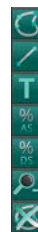

Figure 7-1: Measurement and Annotation Tools
2. Click on the **Length** button (Figure 7-1). The cursor changes to a pen.
2. Click on the **Area - Multiple Points** button (Figure 7-1). The cursor changes to a pen.
2. Click on the **Text...** button (Figure 7-1).
3. Click on the %AS button (Figure 7-1) to display the **Select Area Measurement** dialog box.
2. Click on the %DS button (Figure 7-1) to display the **Select Length Measurement** dialog box.